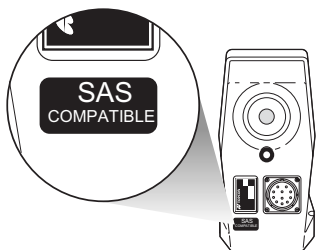

Figure 39. SAS Compatible Decal Location on Sonic Tracker
3. Check to see if a Tracker without SAS code is attached to the cable. Verify that the tracker has a SAS compatible decal near the S/N label (Figure 39).